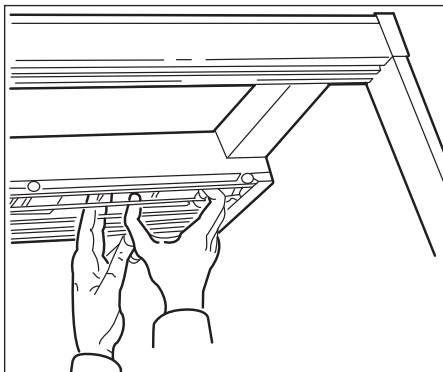

Figure 6. Halogen Bulb Replacement
3. Gently, but firmly, press the lamp socket sideways and remove the bulb (Figure 6).